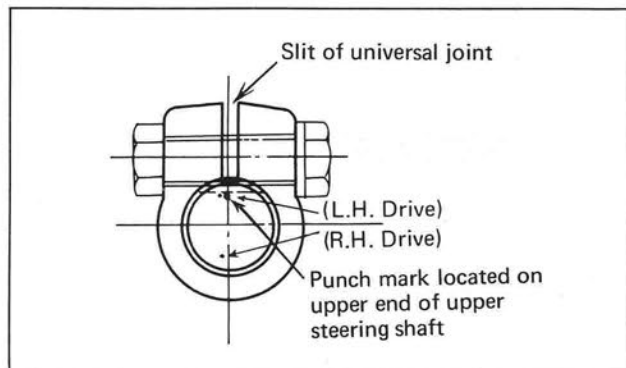

Fig. ST-11 Aligning slit with punch mark
**Note:** When the lower steering shaft spline is fit the upper steering shaft spline, the slit of the universal joint must coincide with the punch mark located on the upper end of the upper steering shaft (See figure ST-11).